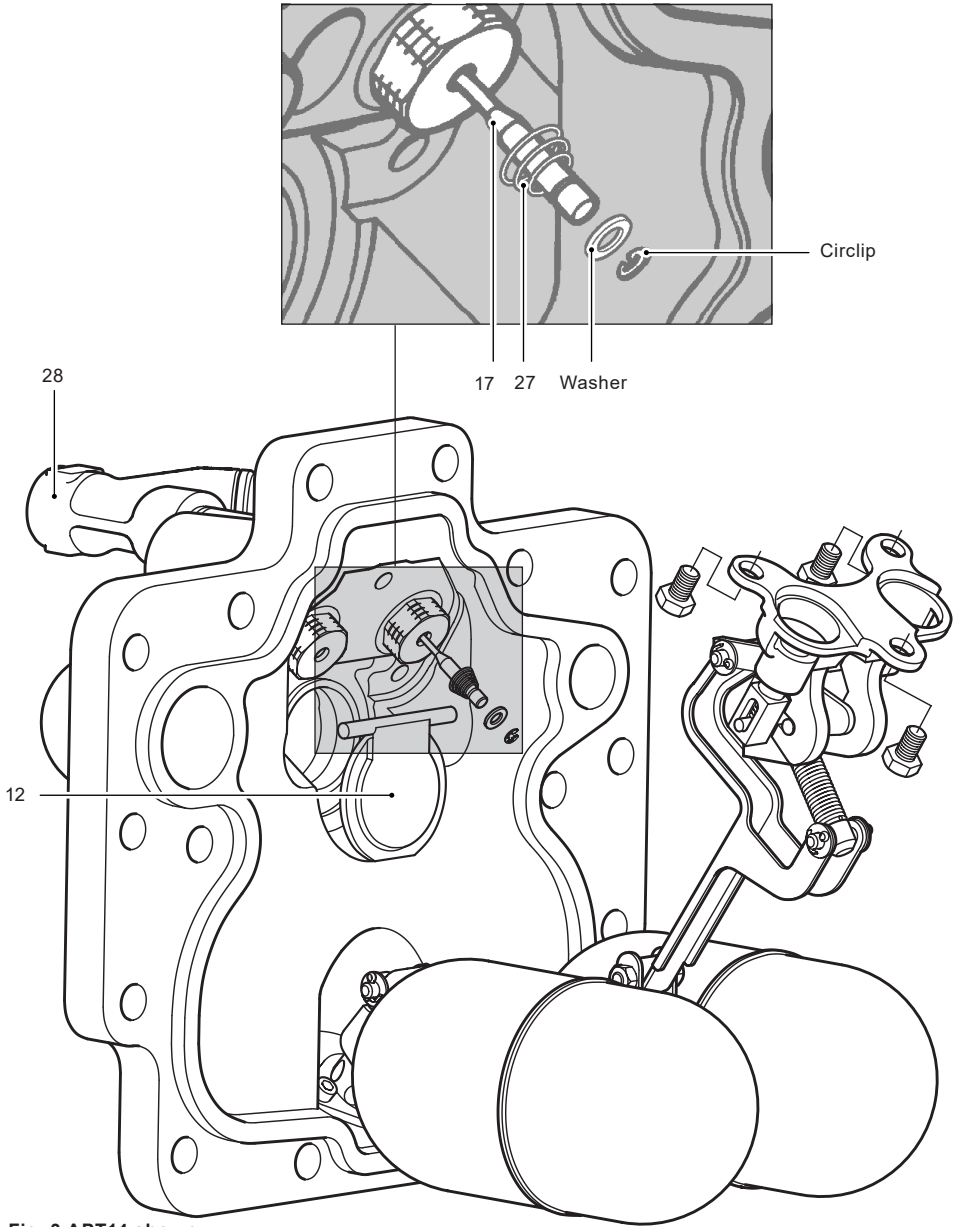

Fig. 3 APT14 shown
3. Carefully remove the circlip, washer and the inlet valve spring (item 27) from the end of the steam inlet valve (item 17).
5. Lift away the pump bracket assembly (See Figure 3). This will allow access to the inlet swing check valve (item 12).
13. Carefully reconnect the motive steam supply and the exhaust lines to the connections marked (S) and (E). The APT14, APT14HC or APT14SHC is now ready to recommission.
14. Make sure that the Spirax Sarco motive supply strainer (with 100 mesh screen) is reinstated to the motive supply connection (item 28, Figure 3).